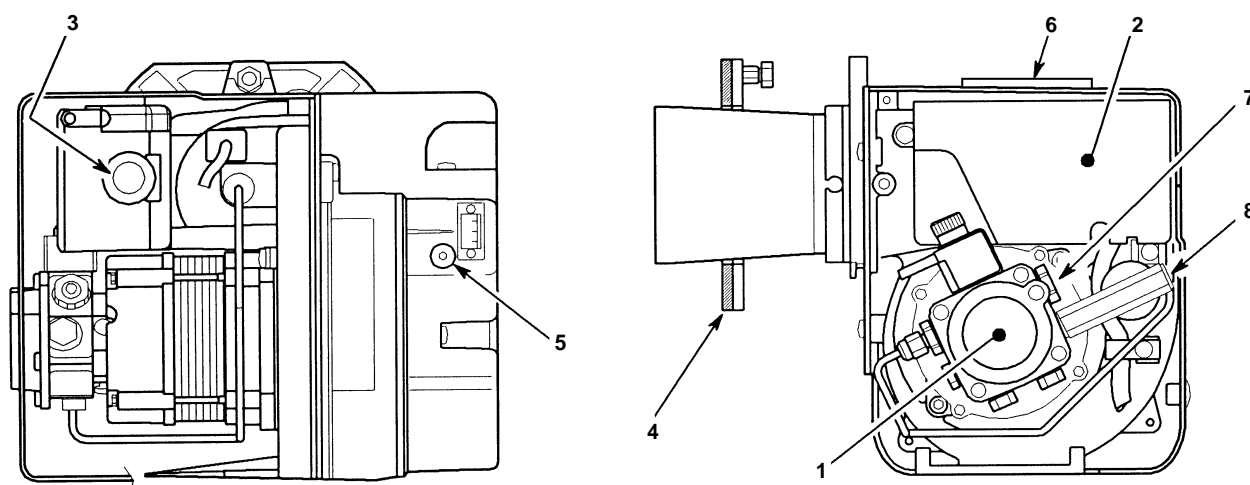

Fig. 30 - Riello RDB burner components
Riello RDB burner - see fig. 30
- 1 Remove and retain the burner fixing nut from the stud on the burner fixing flange on the front of the boiler, see Fig. 30. Leave the small nut in position (ensure it is located up against the mounting flange).